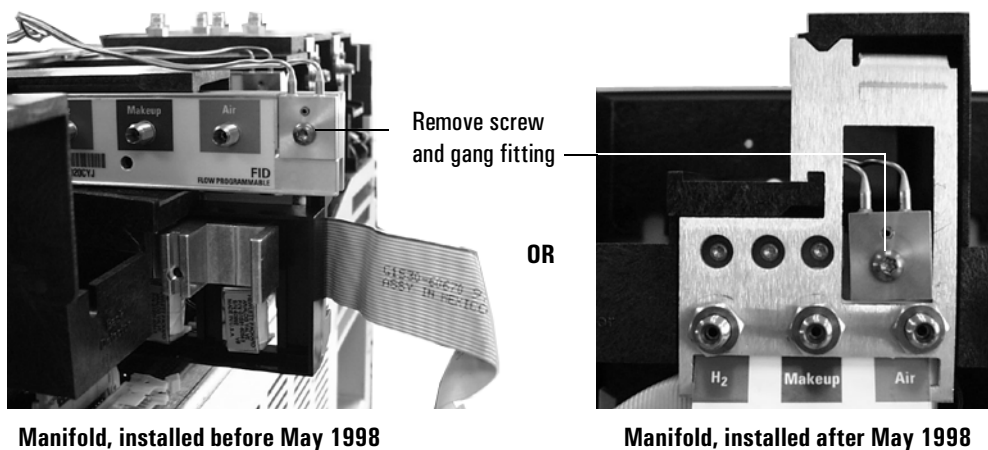

Figure 5 Removing the gang fitting
7. If you are removing a manifold that was installed before May 1998, slide it a few centimeters out of its slot in the pneumatics carrier. See Figure 5.
8. Remove the one Torx T-20 screw holding the gang fitting on the manifold. See Figure 5.